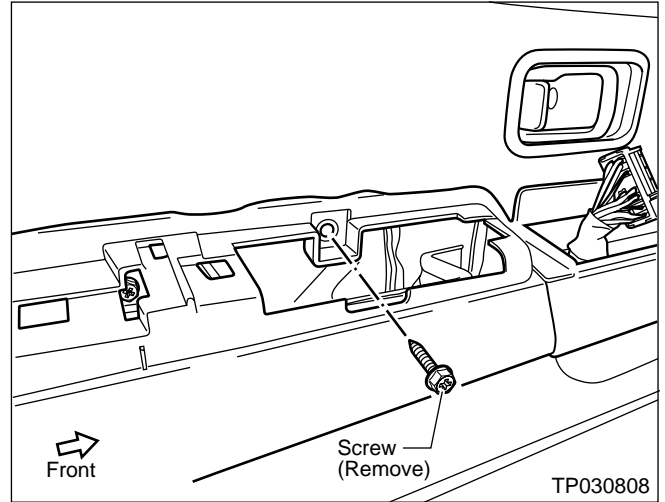

Figure 29
7. Remove the Screw under the Door Pull Handle/Switch Panel (see Figure 29).